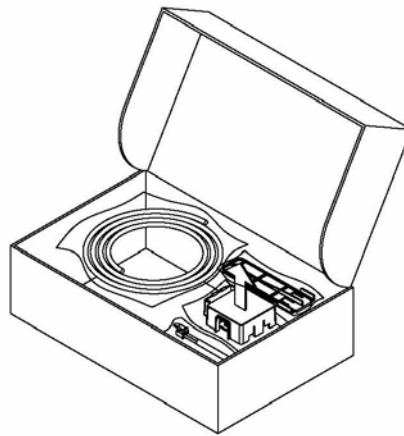

Figure 52
Step 1: Remove the Leak Sensor and its components from their packaging, as shown in Figure 52.